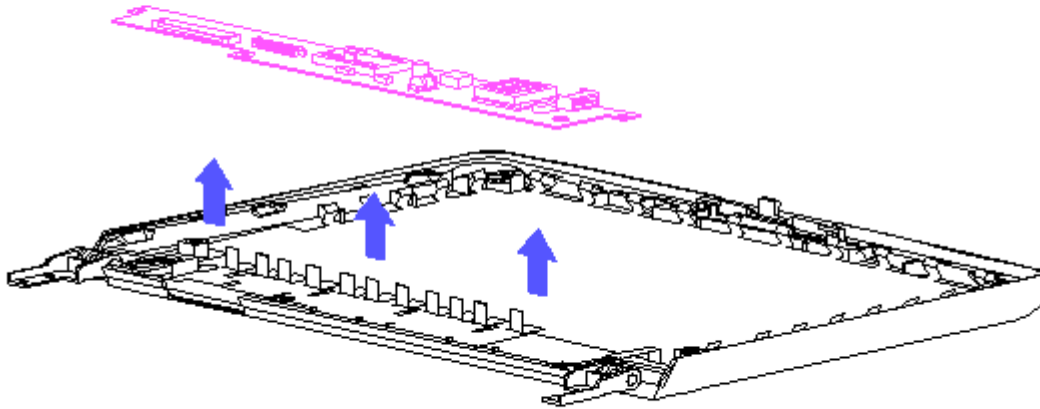

Figure 2-23. Removing the Display Inverter Board
5. Using a Phillips P-0 screwdriver, remove the screw securing the display inverter board to the display enclosure and lift the display inverter board out of the display enclosure (Figure 2-23).